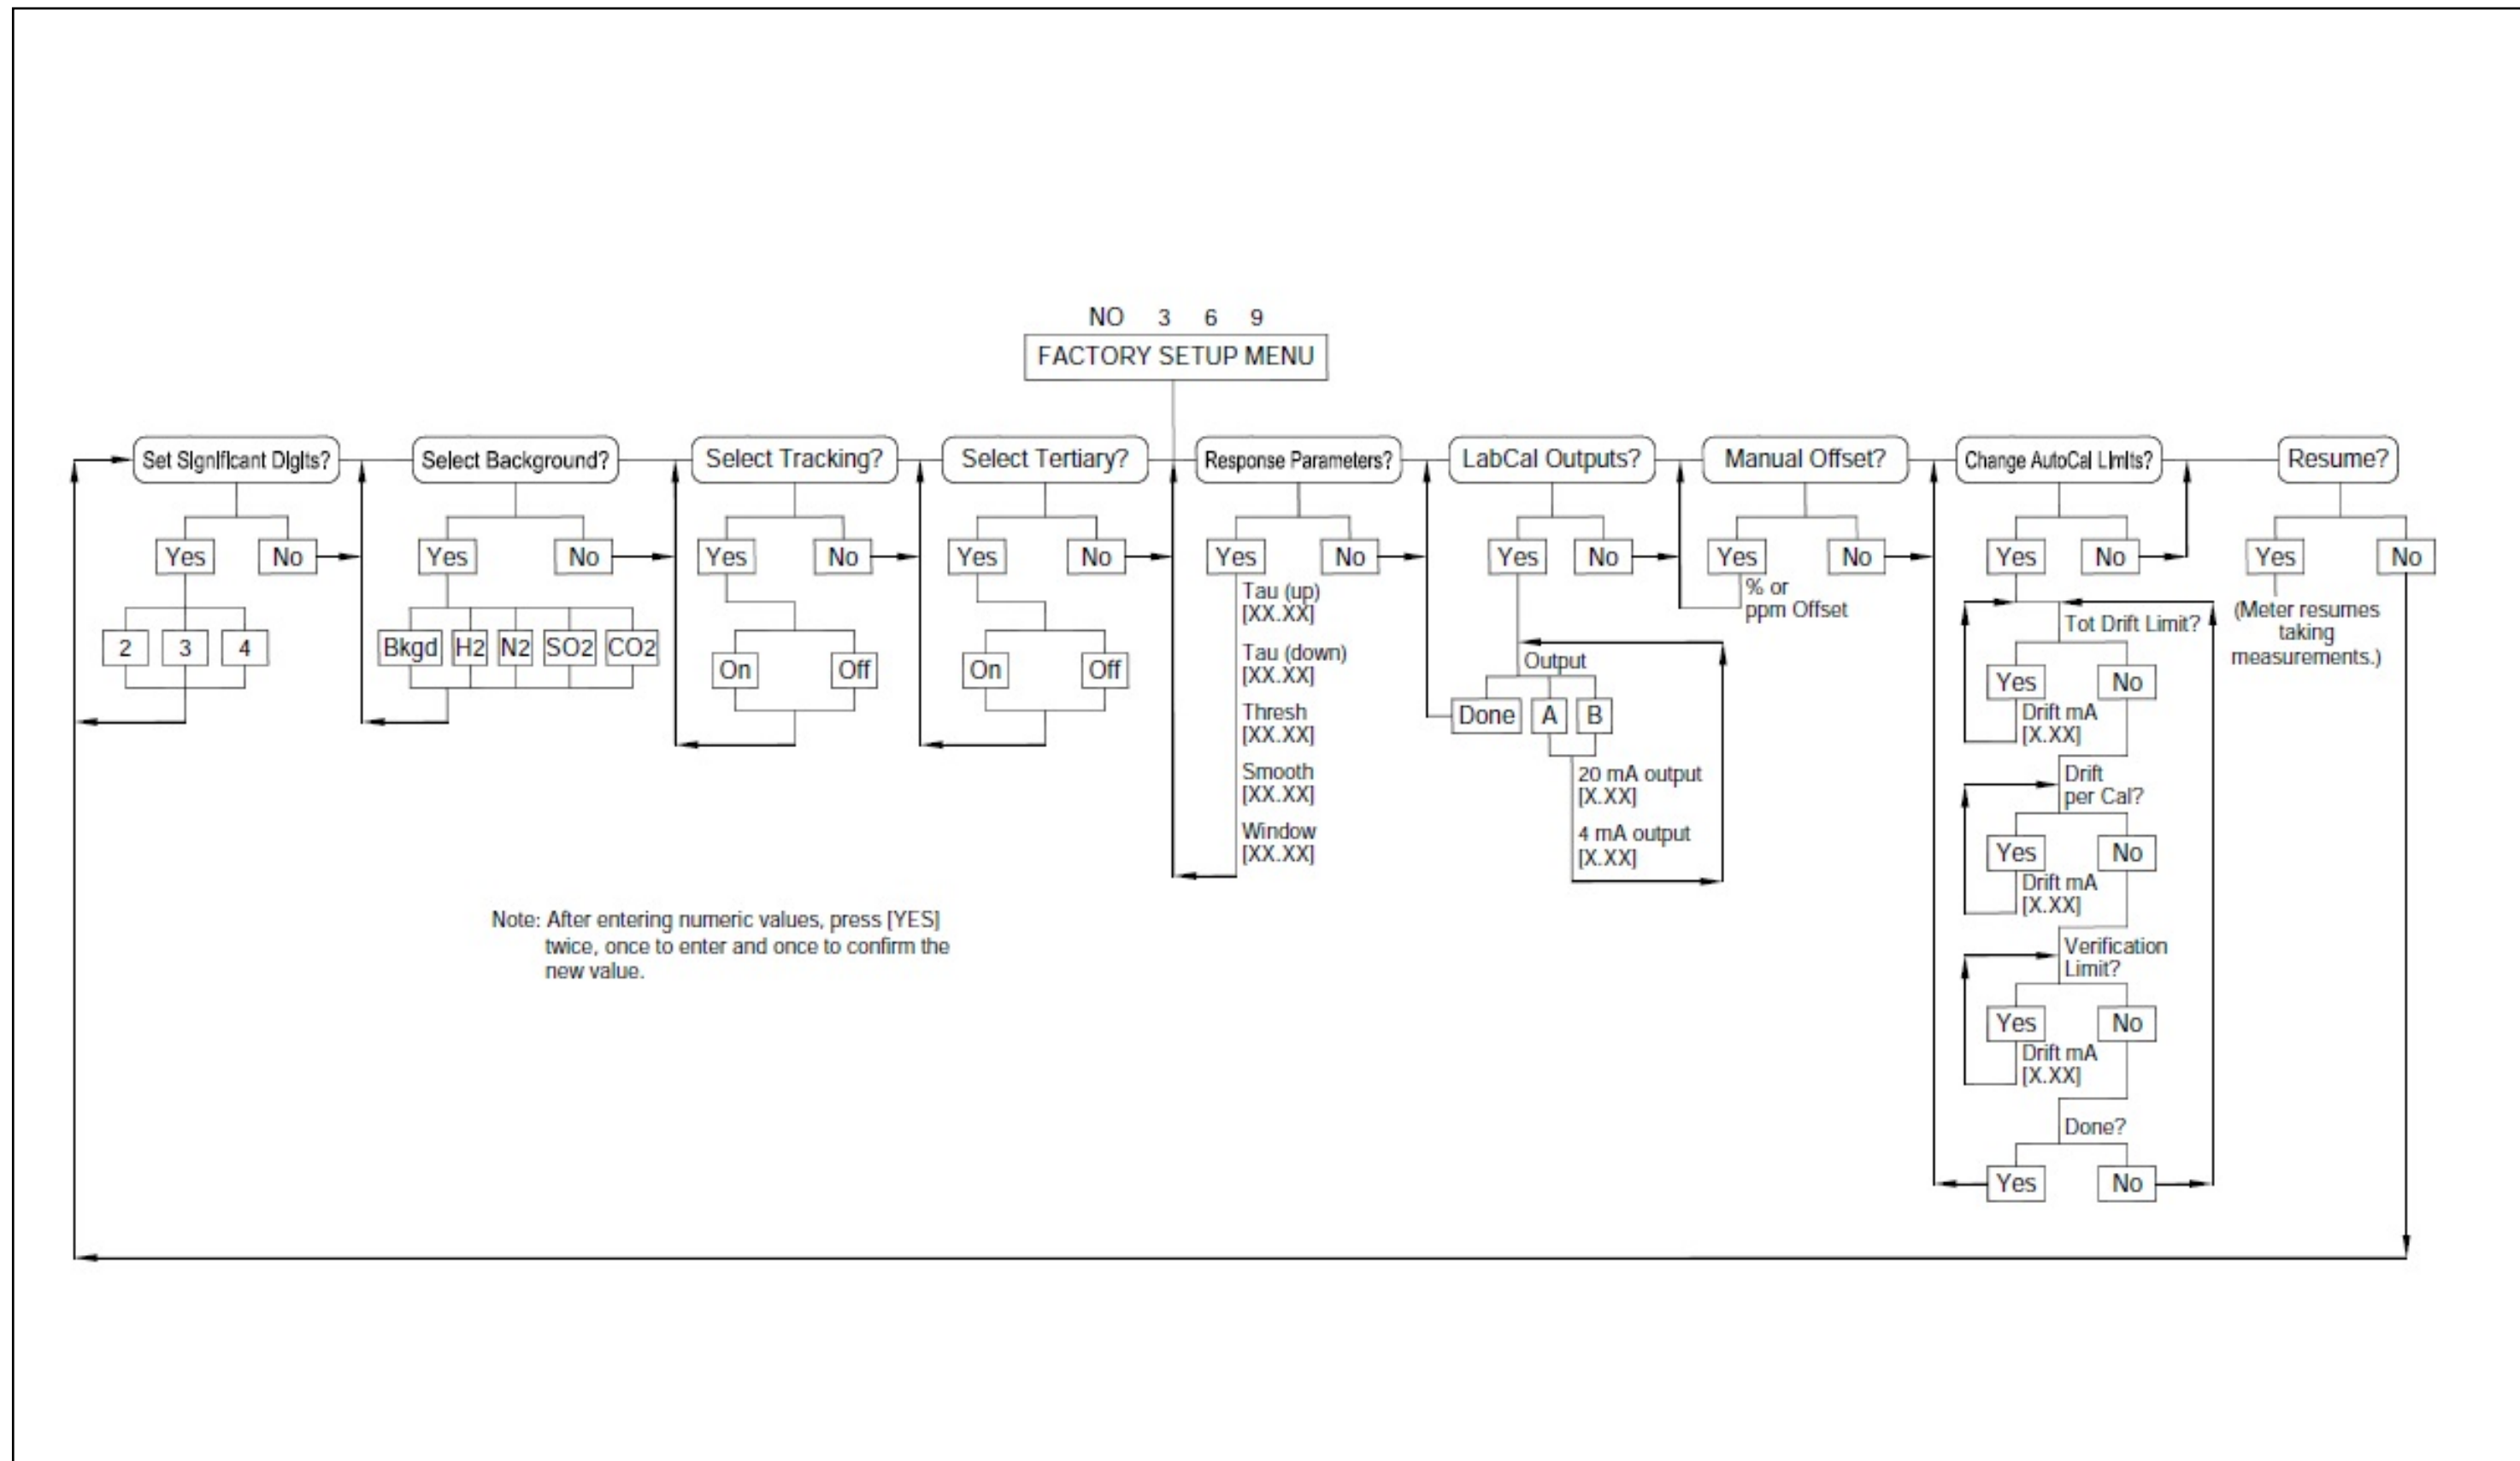

Figure 30: Factory Setup Menu
- Figure 30: Factory Setup Menu